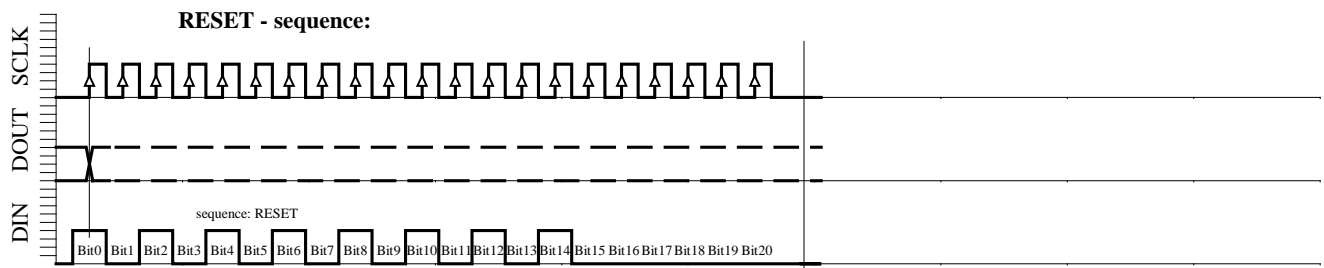

Fig. 6e: RESET sequence (21 bit)
- RESET sequence (Figure 6e)
The RESET sequence is special as the module in any state recognizes its unique pattern. By consequence, it can be used to restart if synchronization between the microcontroller and the MS5535C has been lost. This sequence is 21-bit long. The DOUT signal might change during that sequence (see Fig. 6e). It is recommended to send the RESET sequence before each CONVERSION sequence to avoid hanging up the protocol permanently in case of electrical interference.